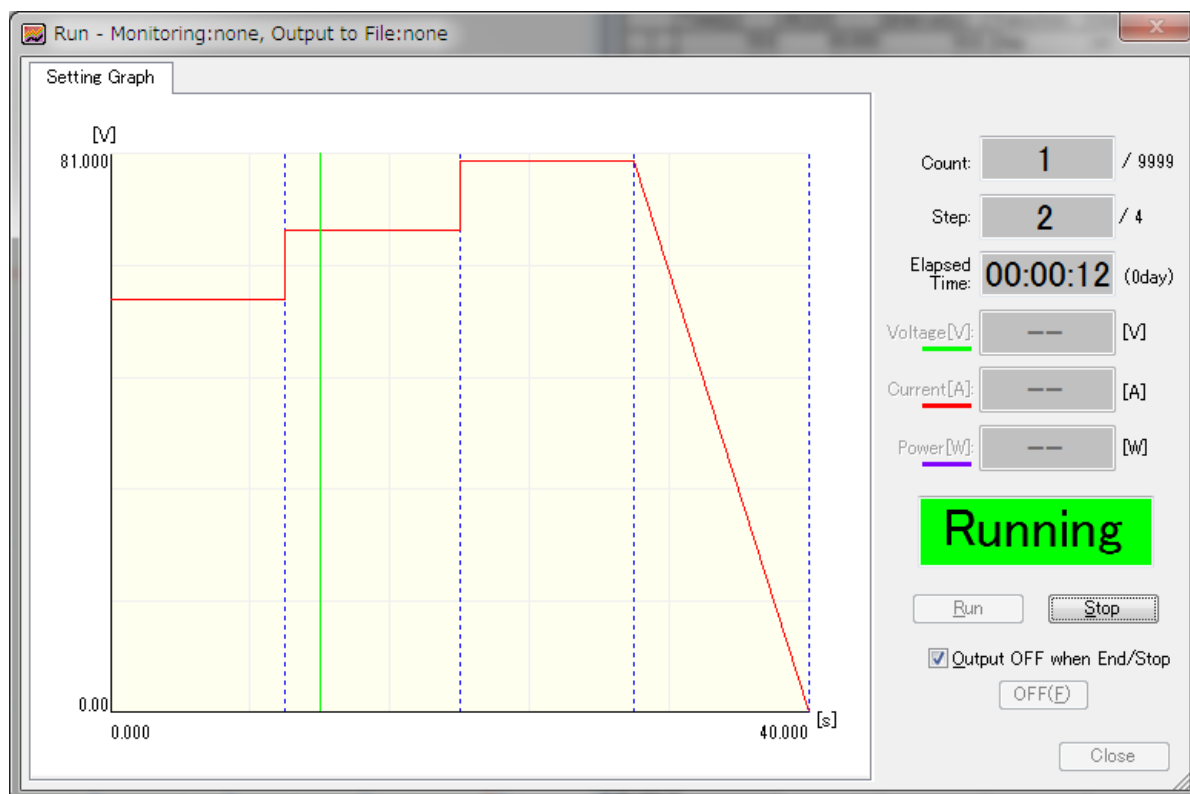

Fig. 9-2 Sequence Being Processed
Fig. 9-2 shows the screen displayed during processing of a sequence.
- * The position line (green vertical line in Fig. 9-2) indicates the approximate position of the sequence being processed.